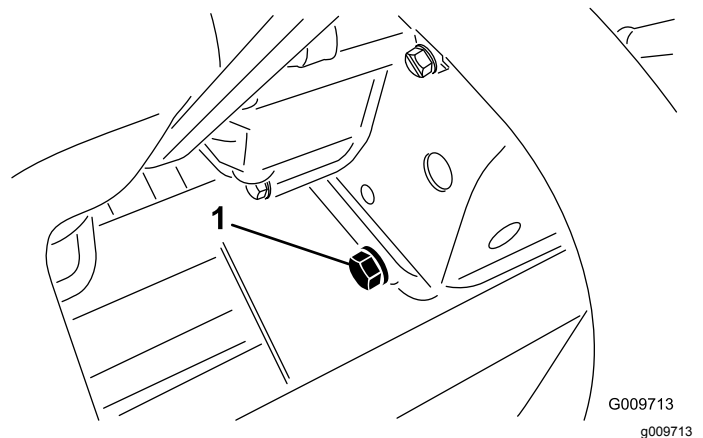

Figure 77
2. Remove the drain plug (Figure 77) and let the oil flow into a drain pan.